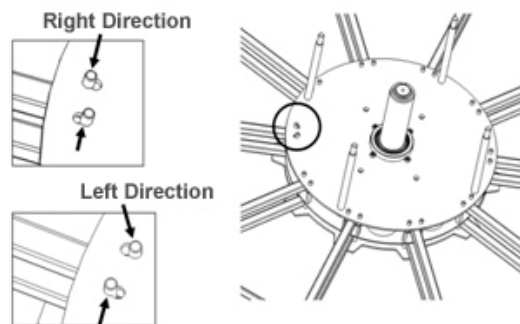

Fig. 12: Right take-off and left take-off
4. Mount the complete spoke wheel (use the correct slotted hole; see Fig. 12).